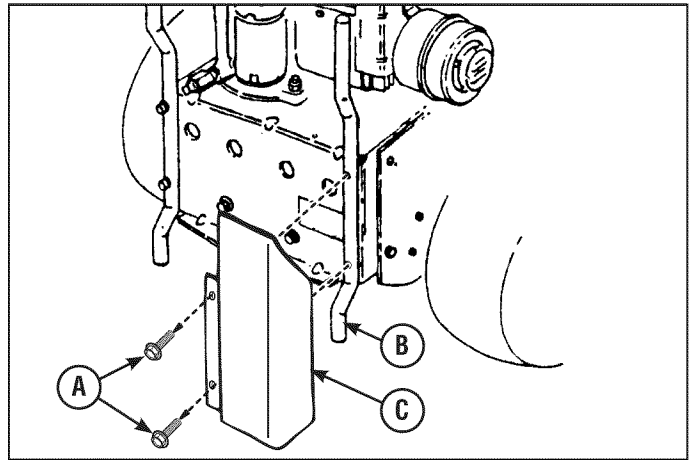

Figure 7
2. Install shield (C, Figure 7) to right side rear bumper (B) and secure with existing screws (A).